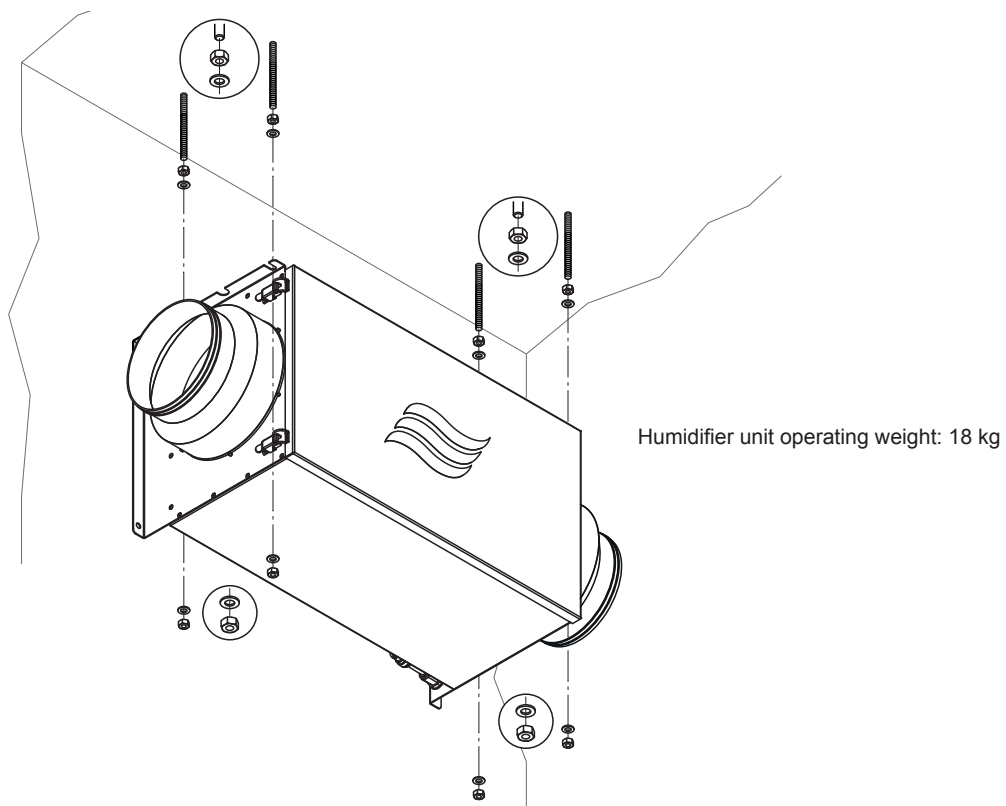

Fig. 8: Attach the humidifier housing to the threaded rods
2. Attach the humidifier housing to the threaded rods using the mounting brackets of the housing with the M8 nuts and washers as shown in Fig. 8.